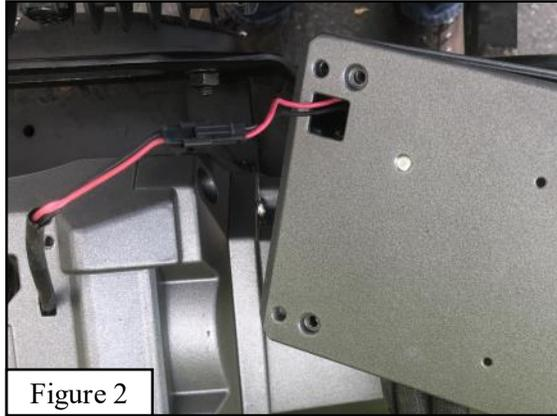
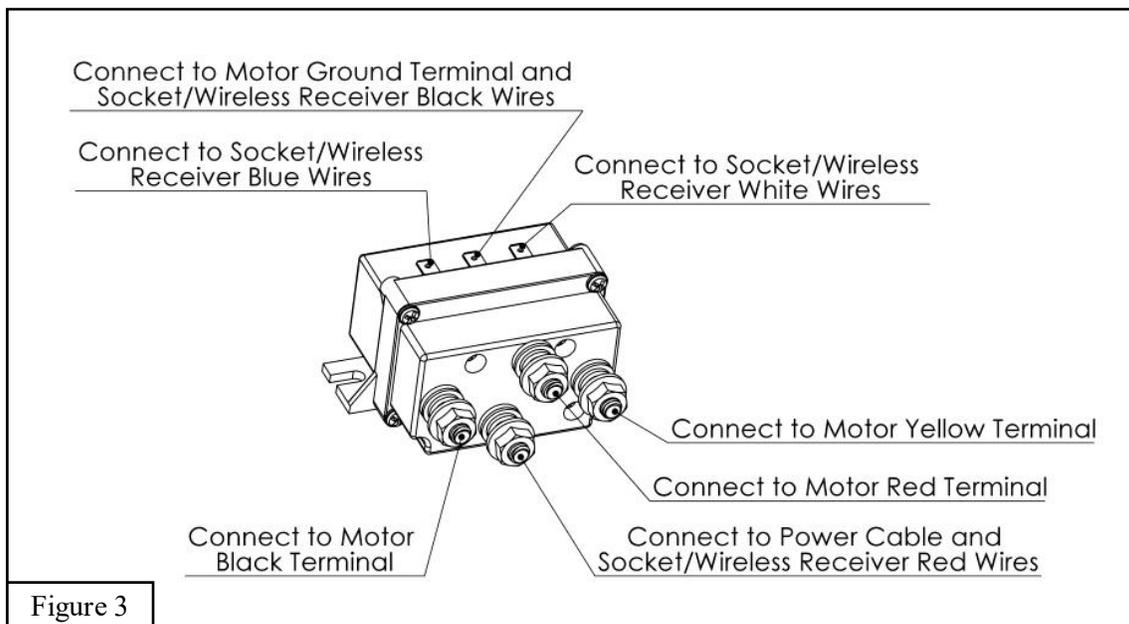

Figure 2
Figure 3
12. Disconnect the drum light cable. See **Figure 2**.
13. Attach the 6 foot long drum light cable (**item 4**) to the drum light cable on the winch.
16. Install the motor cables and 8 foot long power cable onto the contactor according to **Figure 3**. Tighten the M8 hardware to 15-18 ft-lbs.